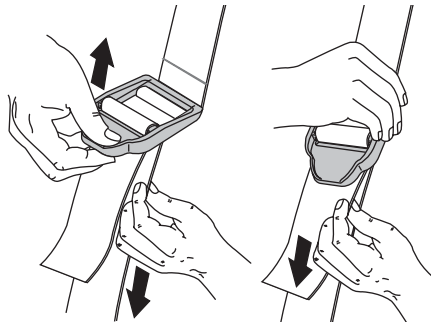

Fig. 5
4. Adjust the length to fit the operator's size. Pull the tab to lengthen, pull the strap to shorten (Fig 5).